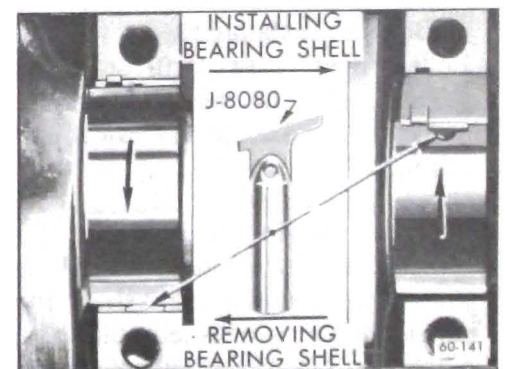

Figure 60-120 - Removing
7. Remove upper bearing shell by inserting Bearing Shell Remover and Installer J-8080 in oil hole in crankshaft. Then slowly rotate crankshaft so that tool rotates the shell out of place by pushing against end without tang. See Figure 60-120.
11. Rotate bearing shell into place as far as possible by hand, then insert Installer J-8080, in crankshaft oil hole and rotate crankshaft to push shell into place. See Figure 60-120.